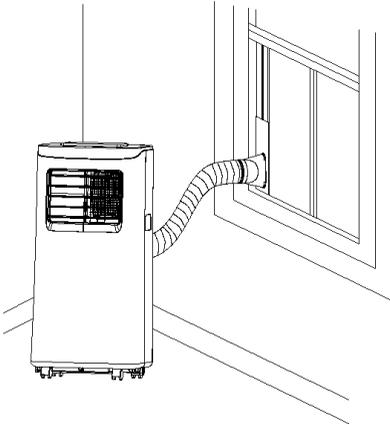
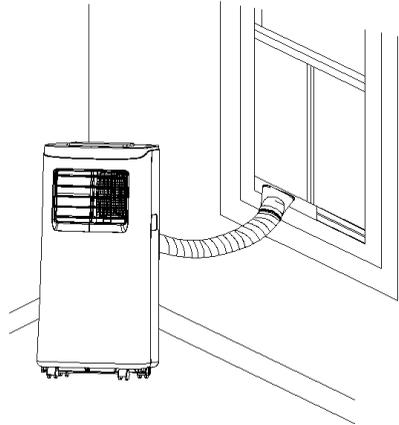

Figure 5
Figure 6
- 2) Elongate the exhaust pipe and snap the flat end of the exhaust pipe joints into the hole of the window sealing plate assembly (as shown in Fig.5 and Fig.6) .